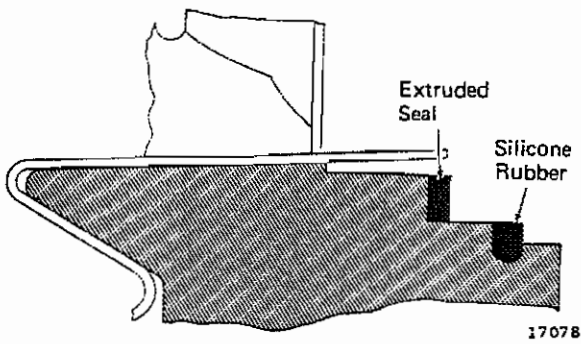

Fig. 20 - Silicone Rubber Applied to Groove in Commutator Steel "V" Ring
4. Apply silicone rubber compound to the groove in the commutator "V" ring with a putty knife. Fill groove with a sufficient amount to ensure a good seal at assembly. Apply extruded seal to "V" ring, Fig. 20.